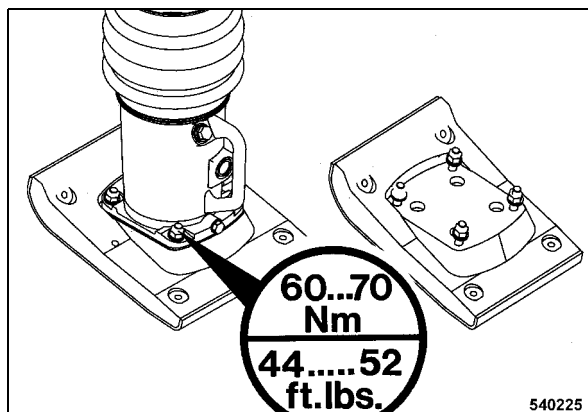

Fig. 28
- After changing the tamper foot plate (Fig. 28) tighten the 4 fastening screws with a tightening torque of 60 to 70 Nm (44 to 52 ft.lbs).